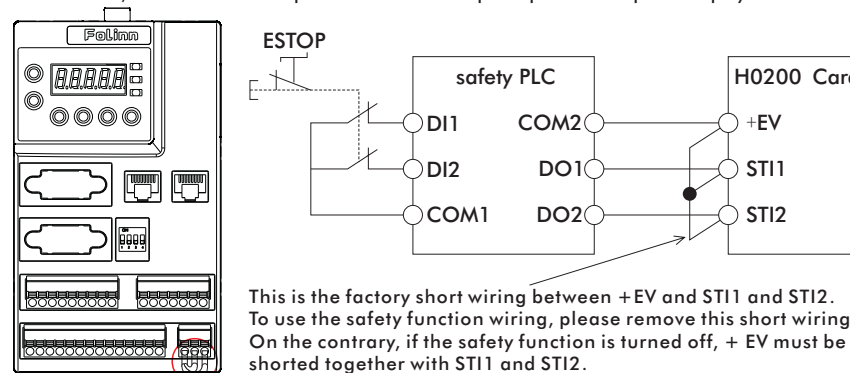

Figure 1
- The internal circuit diagram of the safety control loop is shown in Figure 1 below.